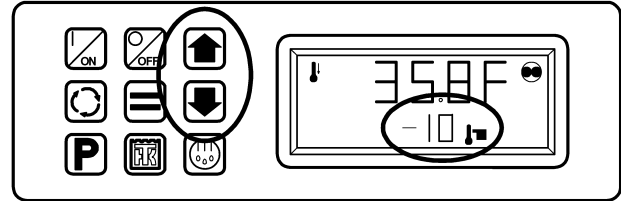

Figure 111: Press Up or Down Arrow Keys
1. When the Remote Standard Display is shown, press the Up or Down Arrow Keys to select the desired setpoint (Figure 111).